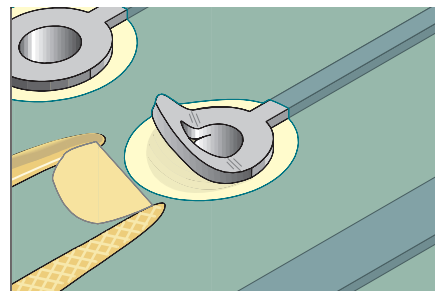

Figure 1 Cut out dry film material to match the area of the lifted land.
6. Place the dry film under the lifted land. (See Figure 1).